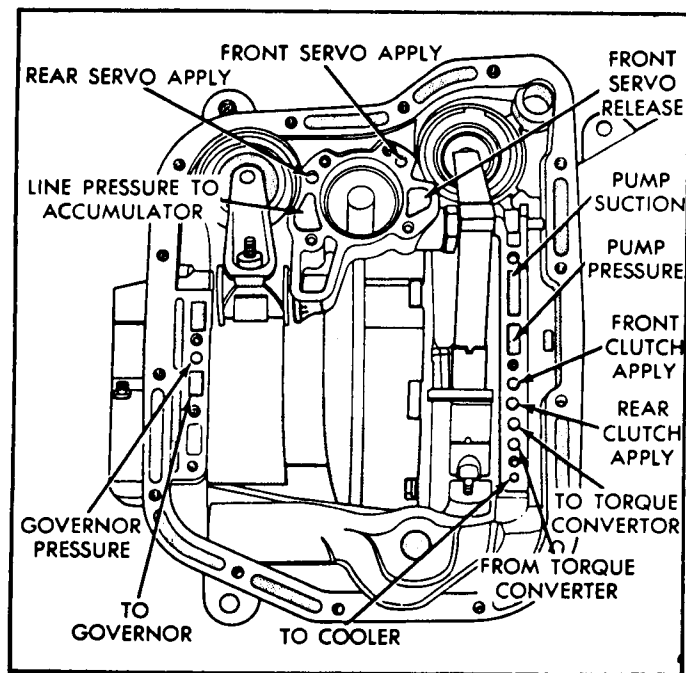

Figure 144
40. Perform air tests on the clutch packs, and the front and rear servos. The passages are identified in Figure 144.